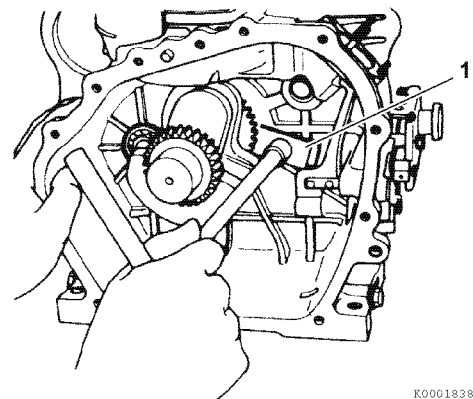

Figure 6-49
16. Remove the crankshaft bearing retainer fastener and bearing retainer (1, Figure 6-49) from inside the crankcase.